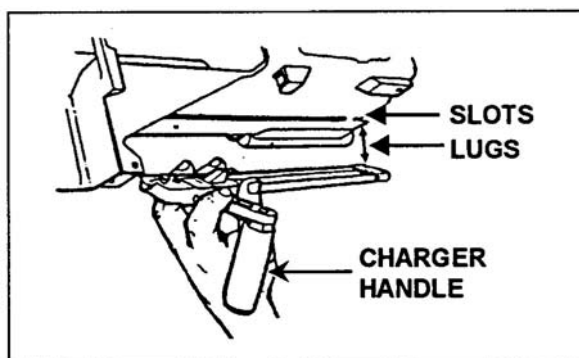

Figure 16. Attachment of the charger assemblies.
- a. Attach the charger assemblies (both sides)(Figure 16).